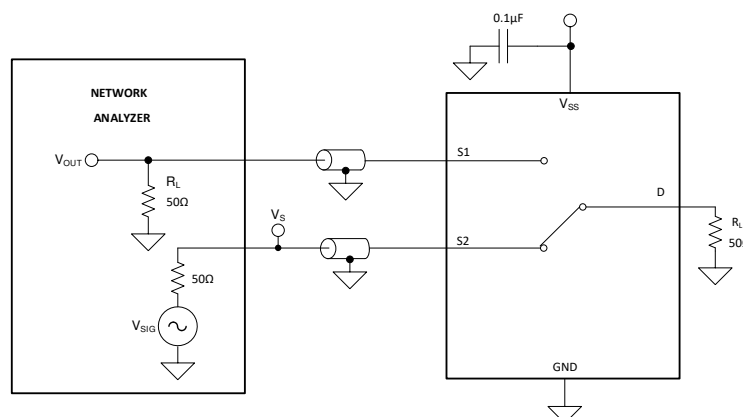

Figure 7-10. Crosstalk Measurement Setup
Crosstalk is defined as the ratio of the signal at the drain pin (D) of a different channel, when a signal is applied at the source pin (S_x) of an on-channel. Figure 7-10 shows the setup used to measure, and the equation used to calculate crosstalk.